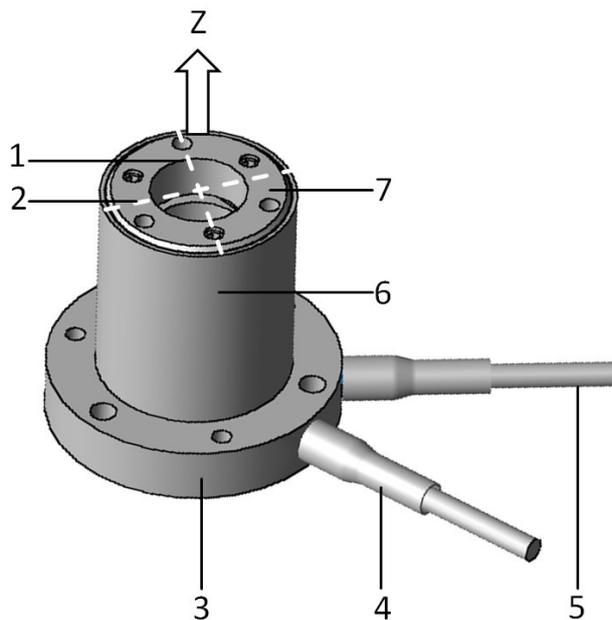

Figure 1: Example view of an S-316.10H
* The assignment of the axes X and Y in Figure 1 only applies under the following conditions: